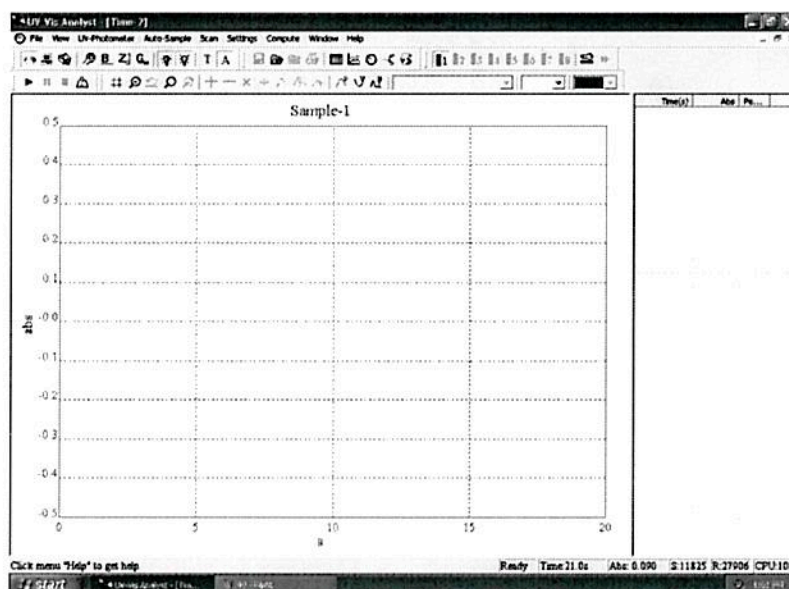

Fig. 4-38
1. Click  on the toolbar, the following dialog box will appear (Fig. 4-38).